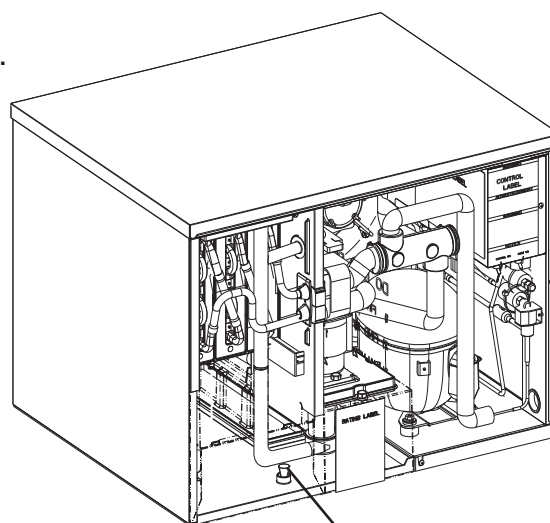

Fig. 10 Drain Plug
- 3) Remove the front insulation panel, remove the drain plug in the bottom of the water tank. See Fig. 10. After the water tank has drained, replace the drain plug.